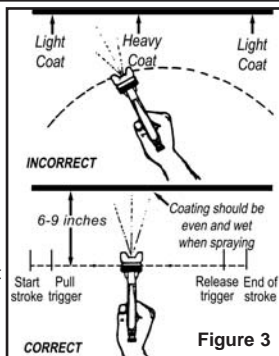

Figure 3
- Begin spraying. Hold the gun about 6 to 9 inches from the work surface and while moving the gun from side to side, depress the trigger to begin applying material. To avoid blobs, runs and lap marks, keep the gun in motion at all times before, after and while the trigger is depressed (see Figure 3). When spraying from the left to right, use the vertical pattern and when spraying from the top to bottom, use the horizontal pattern. Practice painting on a piece of scrap material or cardboard until the test coating results are acceptable, making adjustments as follows:
- Spray pattern adjustment knob (F) - for a full pattern, turn the knob in a counterclockwise direction and for a round pattern, turn the knob clockwise. This knob is used to create the proper pattern of paint as it is sprayed from the spray gun.
- Fluid control knob (G) - turn in a clockwise direction to reduce the amount of paint and counterclockwise to increase the amount of paint. This knob controls the amount of paint that is mixed with the air. **NOTE: If the fluid control knob is turned in all the way, the gun will emit only air.**